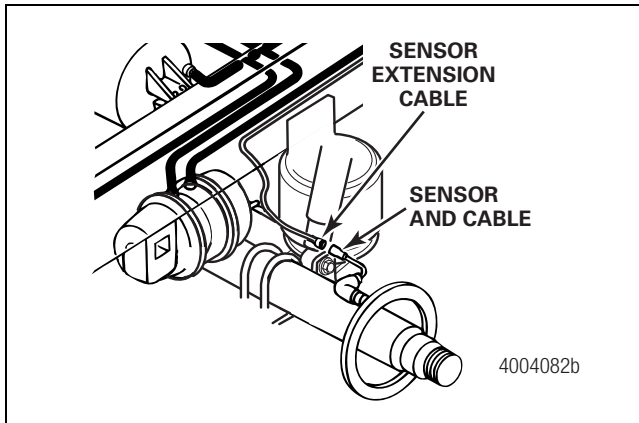

Figure 9
2. Connect the sensor and cables on the prepped axles to the sensor extension cables. Verify that each connection is secure. Figure 9.